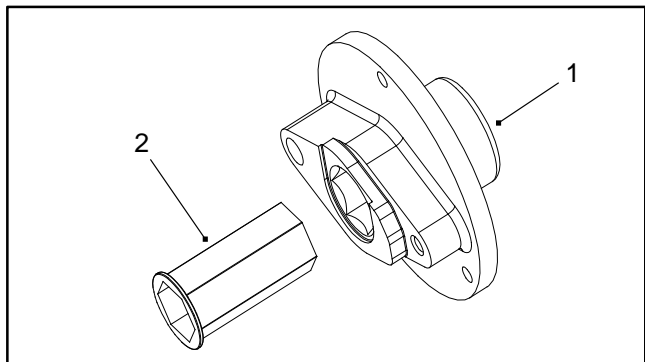

Figure 15
2. Remove three cap screws (1) and lock washers (2) from the shallow rim (3) and hub (5). Remove hub from deep rim (10).
3. Remove four cap screws (12) and flange nuts (13) from the deep rim (10) and shallow rim (3). Remove shallow rim from the deep rim.
4. Remove bolt (9) from the hub (5). Remove bolt (8), spring (7), and retaining lever (6) from the hub.
5. Later production wheel assemblies include a hub bushing (Fig. 15). Make sure that bushing is in good condition.